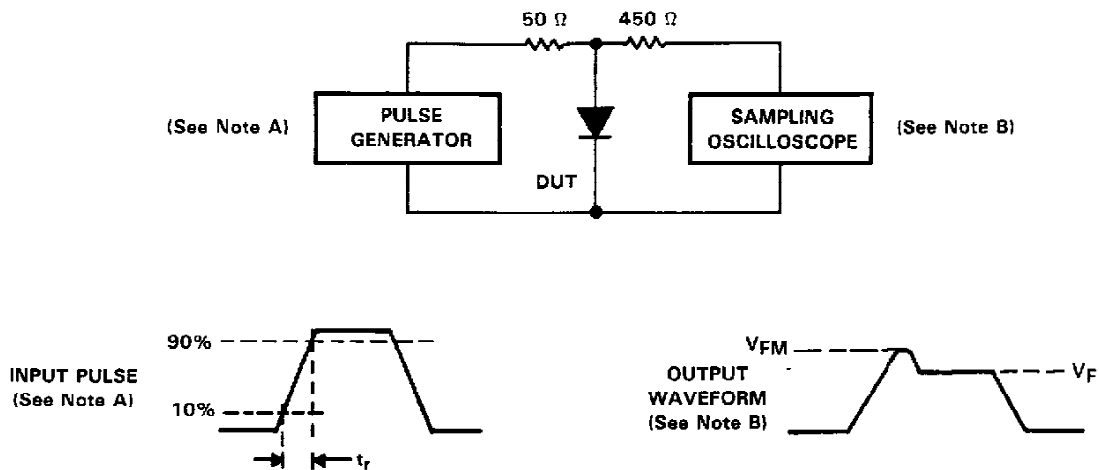

FIGURE 1. FORWARD RECOVERY VOLTAGE
**switching characteristics at 25°C free-air temperature (see Figures 1 and 2)**